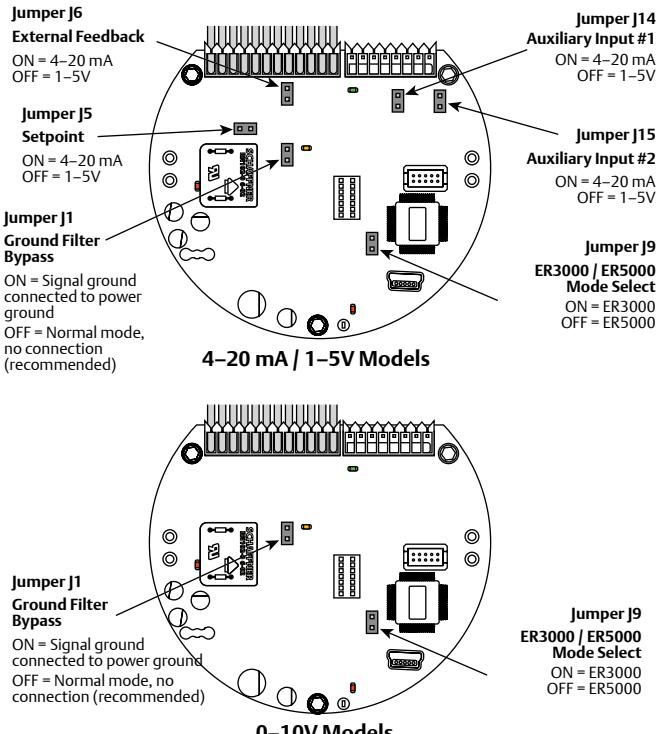

Figure 63: Jumpers
Figure 63 shows the jumpers on the ER5000.
**NOTE** As seen in Figure 63, 0–10V models of the ER5000 do not have these jumpers.